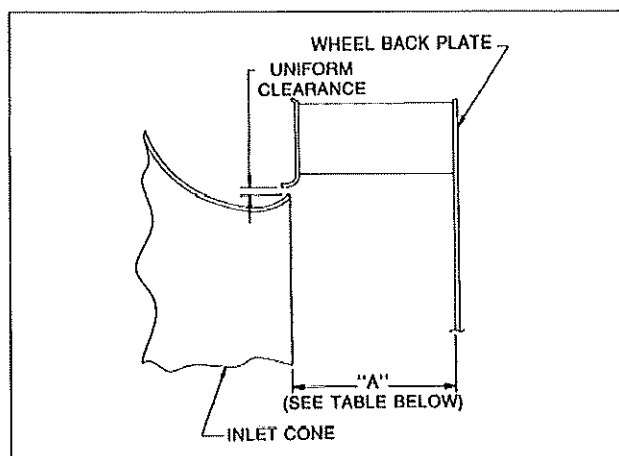

Figure 2
3. When installing a new wheel or cone, the proper wheel-to-inlet cone clearance must be maintained (see Figure 2).